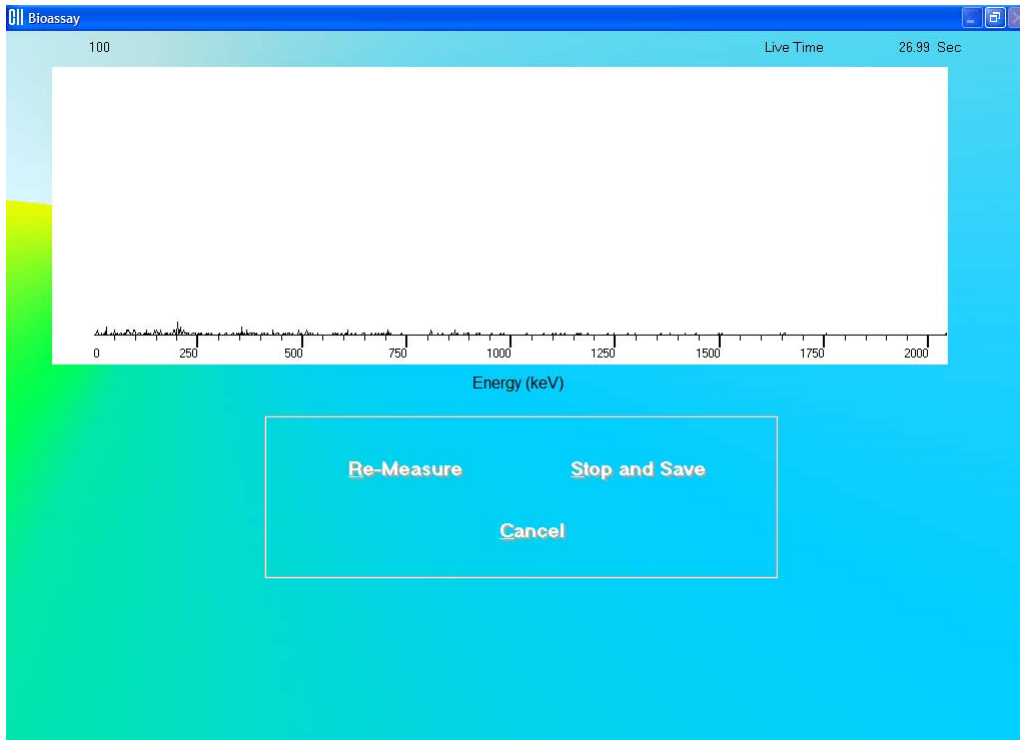
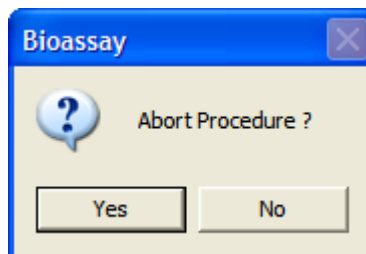

Figure 8-7
Figure 8-10
- vi. Verify that there are no radioactive sources in the area and click the  button to measure background counts. The Data Acquisition screen (Figure 8-7) is displayed.
To measure the isotope, place the isotope standard in the Neck Phantom exactly simulating the geometry used in the bioassay measurement and click the button. Data collection begins as shown in Figure 8-7 above. To stop the measurement, click the button. The screen then appears as shown in Figure 8-10.